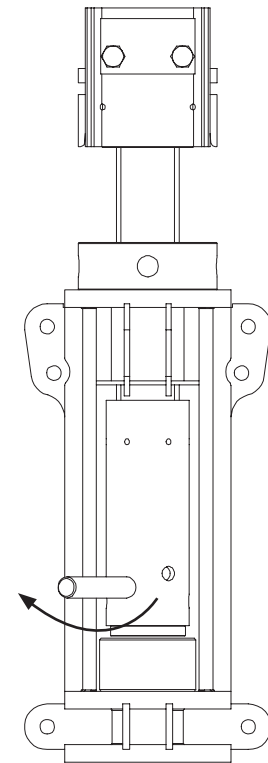

Fig. D1.06
3. Turn the spindle sleeve (28.3) with mounting shaft VST (29) in a clockwise direction until it rests against the hydraulic cylinder (43.4). (Fig. D1.06)